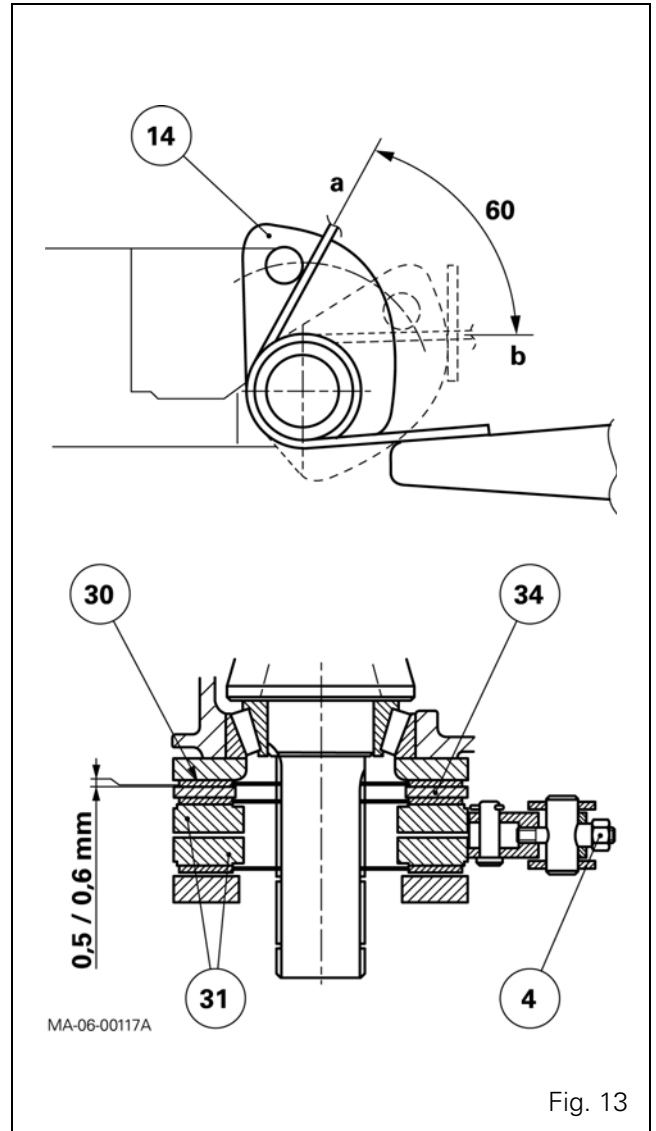

Fig. 13
- 53. Position the guide rod link (2) (Fig. 13) with the cam (14) in contact with the guide rod link (13) to obtain a distance of $315 \text{ mm} \pm 12 \text{ mm}$ between the cable fastening axis and the support (3). Fit the pin (1) (Fig. 13).
- 54. Adjust the mechanism (31) using the adjusting nut (4) so that cam (14) movement from rest position "A" to maximum position "B" is 60° (Fig. 13) or turn nut (4) to obtain a functional clearance of 0.5 mm to 0.6 mm, inserting a laminated shim between the discs (30) and the mechanism (31) (Fig. 13).